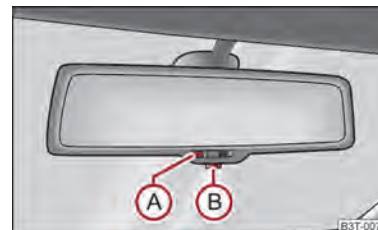

Fig. 54 Automatic dimming interior mirror
- Press the button **B** ⇒ fig. 54, the warning light **A** lights up.